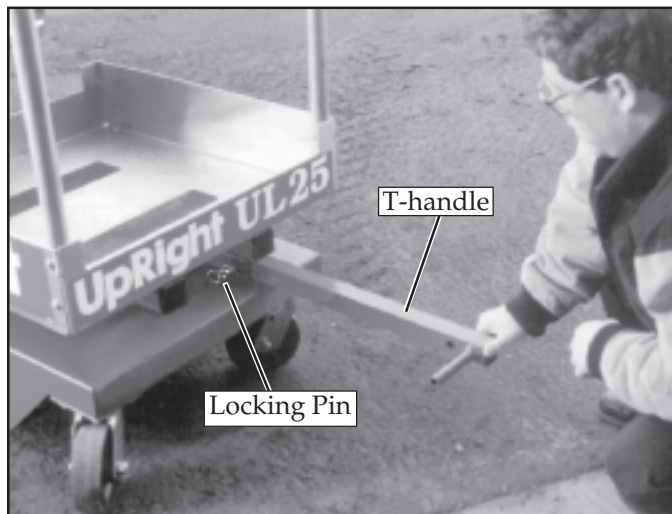

Figure 6: T-handle positioning
5. Release the locking pin and pull the T-handle out until the locking pin engages the hole in the end of the T-handle (Figure 6).